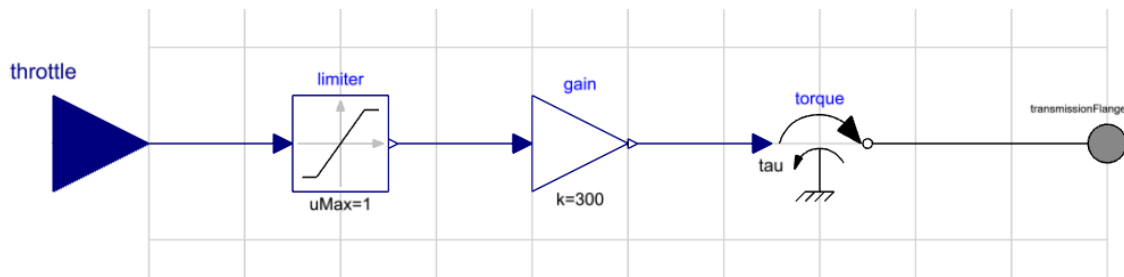

Figure 5 BasicEngine model
7. Build the model using *Modelica.Blocks.Nonlinear.Limiter*, *Modelica.Blocks.Math.Gain*, and *Modelica.Mechanics.Rotational.Sources.Torque*. Set $u_{Max}=1$, $u_{Min}=0$ in the limiter block and propagate the gain as **max_torque** with a default of 300 Nm. The model should look like Figure 5. Use the code block reference shown below.